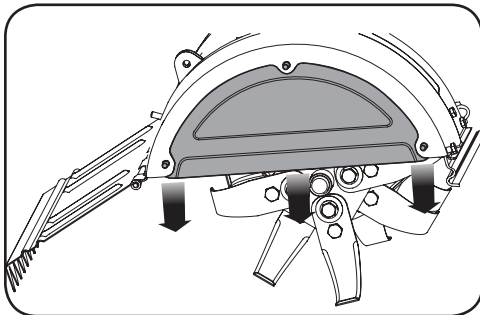

Figure 5-6
2. Slide the end cover back and out from the bottom of the tine shield. See Figure 5-6.